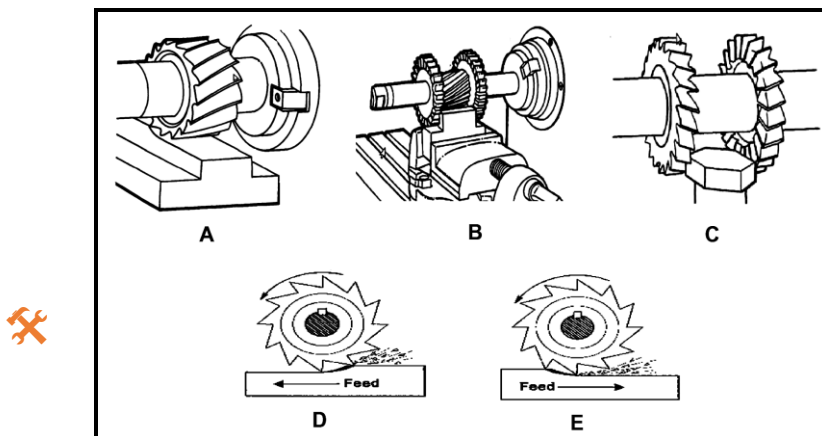

FIGURE 4
- 12.1 FIGURE 4 shows the milling processes carried out on a milling machine. Name the milling processes labelled A to E. Write only the answers next to the letters (A–E) in the ANSWER BOOK.